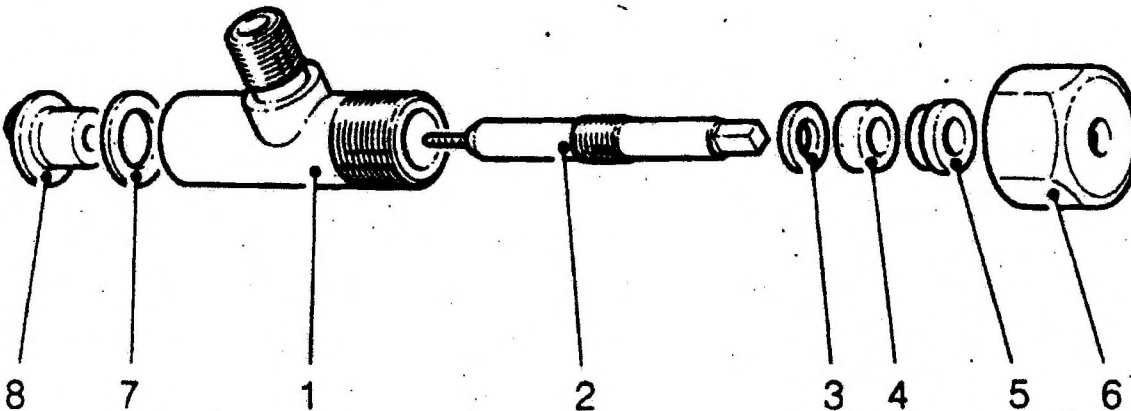

Fig 1 Exploded view of control valve
8.2 Upon assembly of the control valve, fit the Packing Preformed (item 1), in the position of Fig 1 item 4.